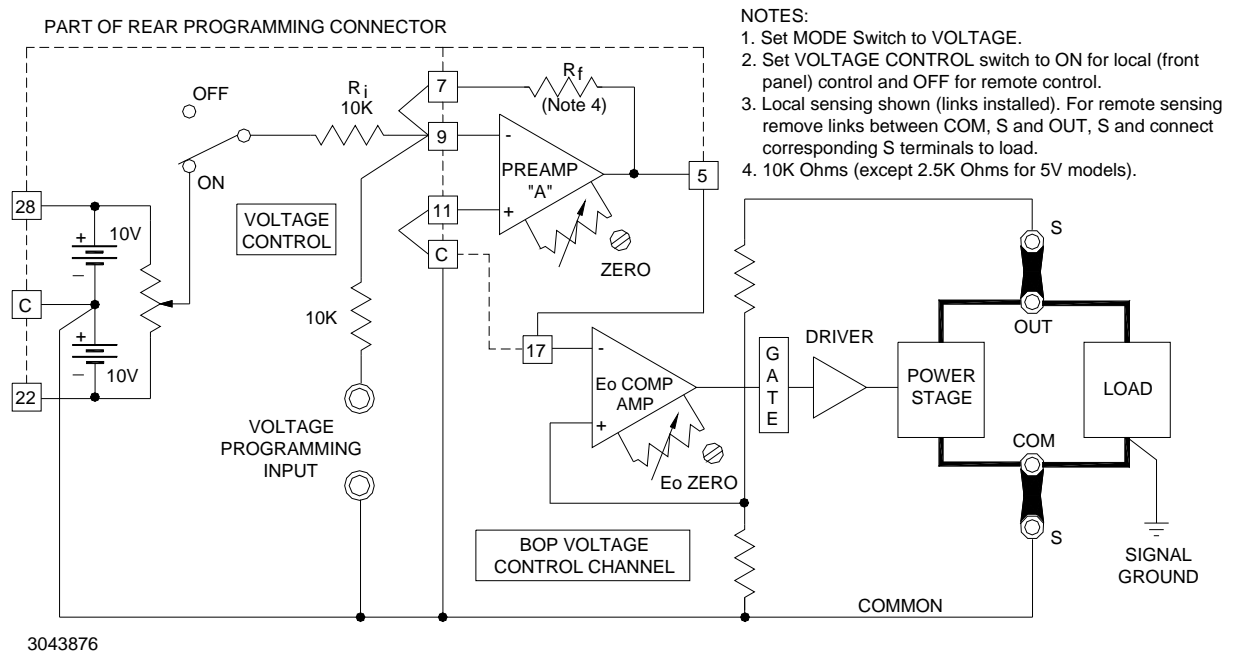

FIGURE 3-2. BOP VOLTAGE CONTROL CHANNEL (LOCAL CONTROL, LOCAL SENSING)
- Voltage Control Channel: see Figure 3-2 and PAR. 3.3.1 for local control.
Figure 3-2 illustrates the voltage control circuit configured for local (front panel) control using local sensing.